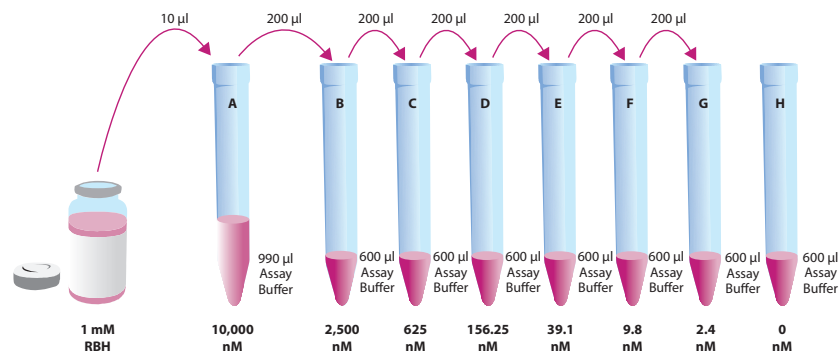

Figure 2. Preparation of RBH standards
14. Prepare the RBH standards according to Figure 2: Label eight microcentrifuge tubes A-H. Aliquot 990 µl of Protein Carbonyl Assay Buffer into tube A and 600 µl into tubes B-H. Transfer 10 µl of the 1 mM Protein Carbonyl RBH to tube A and mix thoroughly. Serially dilute the standard by removing 200 µl from tube A and placing it in tube B; mix thoroughly. Next, remove 200 µl from tube B and place it in tube C; mix thoroughly. Repeat this process for tubes D-G. Tube H contains Protein Carbonyl Assay Buffer only.